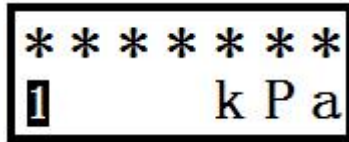

Figure23
2.3 Enter "Confirm" once to enter the variable view. The first variable appears "current pressure/differential pressure value", engineering units and their serial numbers, as shown in Figure 23 (assuming the engineering units is "kPa");
2.6 Enter "Right" key once, the screen displays the first variable again, as shown in Figure 23;